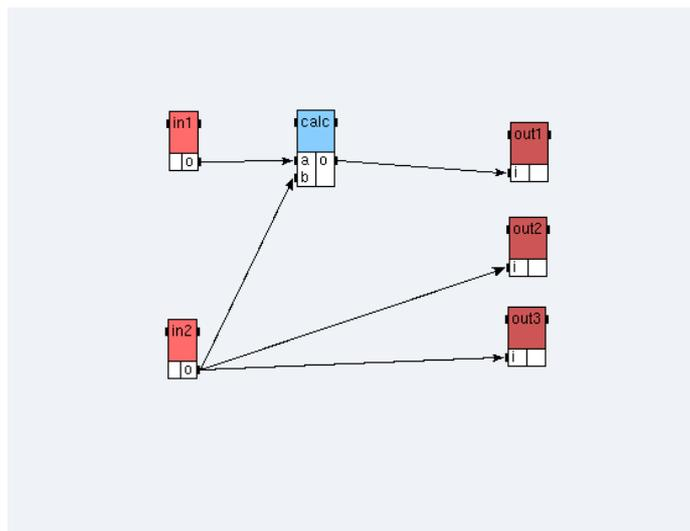

Figure 1.12: Main algorithm of the **Example 1**
- from the `AlgorithmMain` definition window, to create a data dependence between `in1` and `calc`, point the cursor on the output port `o` of the `in1` operation, middle click, and drag to the input port `a` of the `calc` operation. It draws an arrow between these target ports. After creating the other data dependences, the main algorithm looks like the figure 1.12.